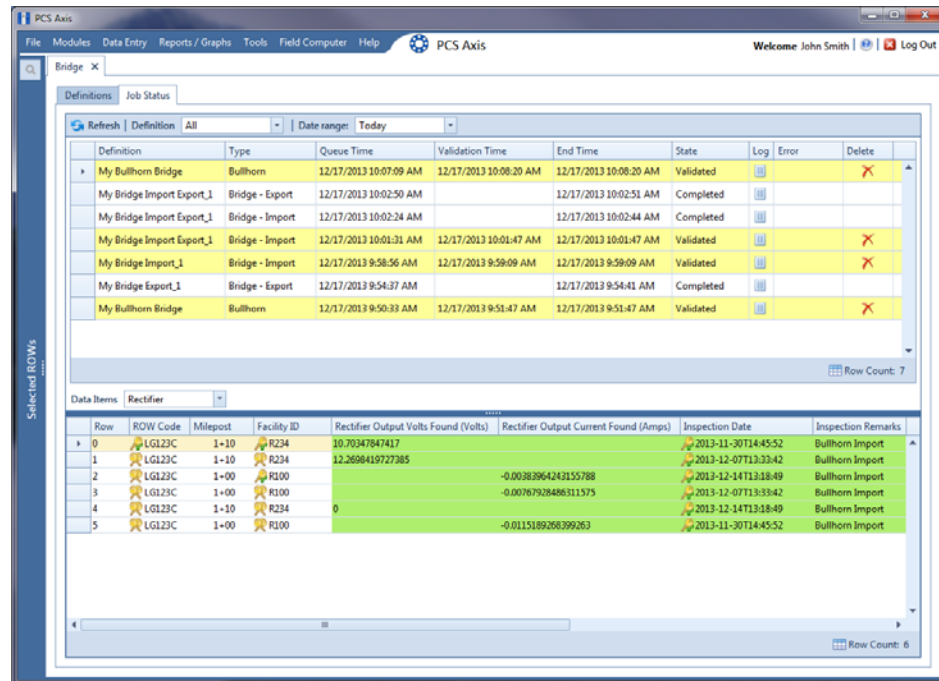

Figure 10-39. Job Status
- 25 To view the status of a Bridge session, click  **Job Status** in the *Definitions window* to open the *Job Status window* (Figure 10-39). Clicking  **Log** for a Bridge session opens the log file for the selected session.